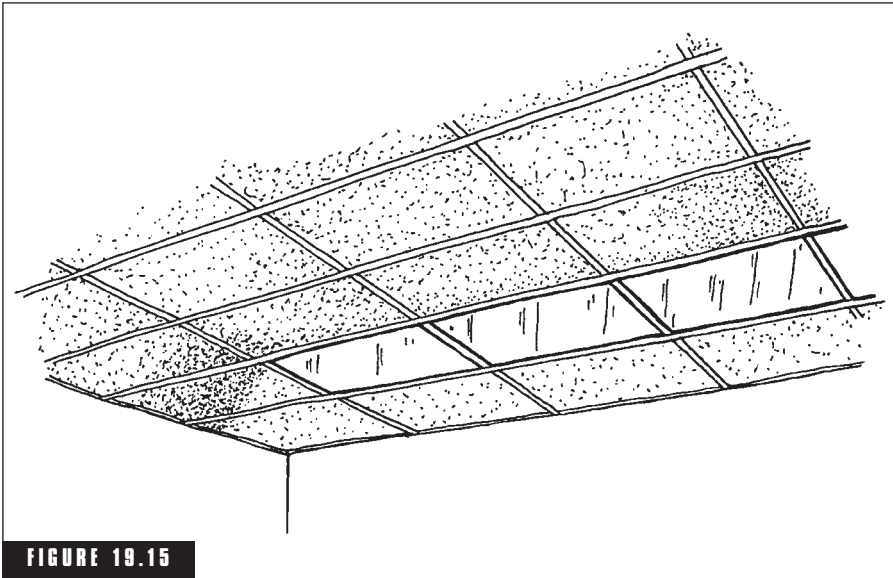

FIGURE 19.15
- **Luminous**—a lighting system consisting of a false ceiling of diffusing material with light sources mounted above it (Fig. 19.15).